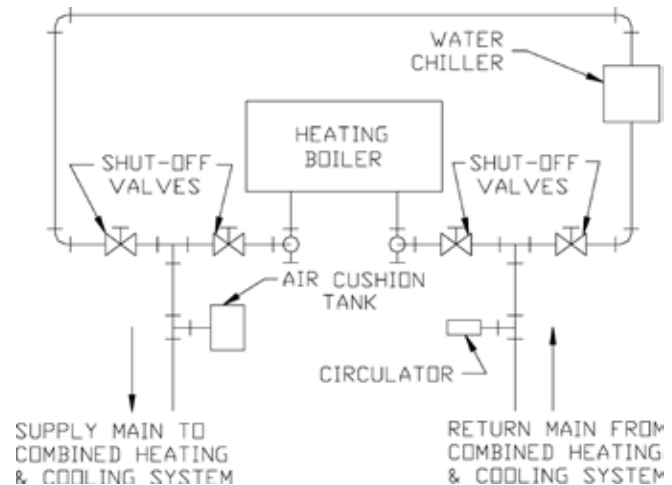

Figure 6: Recommended Piping for Combination Heating & Cooling (Refrigeration) Systems
- C. If this boiler is used in connection with refrigeration systems, the boiler must be installed so that the chilled medium is piped in parallel with the heating boiler using appropriate valves to prevent the chilled medium from entering the boiler, see Figure 6. Also consult I=B=R Installation and Piping Guides.